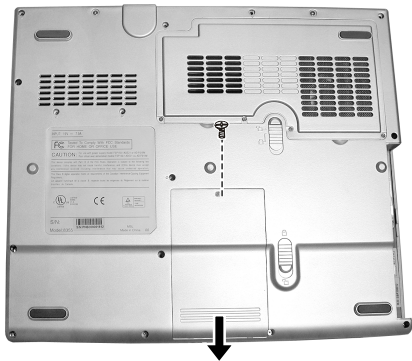

Figure 2-11 Remove HDD compartment cover
3. Remove one screw fastening the HDD compartment cover. Then sliding it outward. (Figure 2-11)